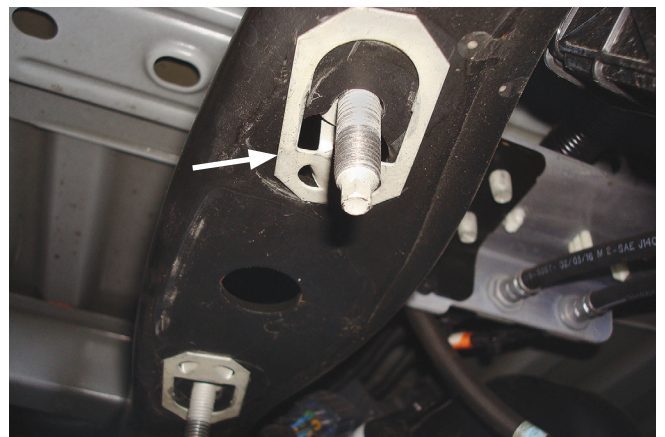

Fig. 4
2. Remove the clip-in studs by prying on the hinged end with a screwdriver to release. Pull all four clip-in studs out of the frame (Fig. 4).